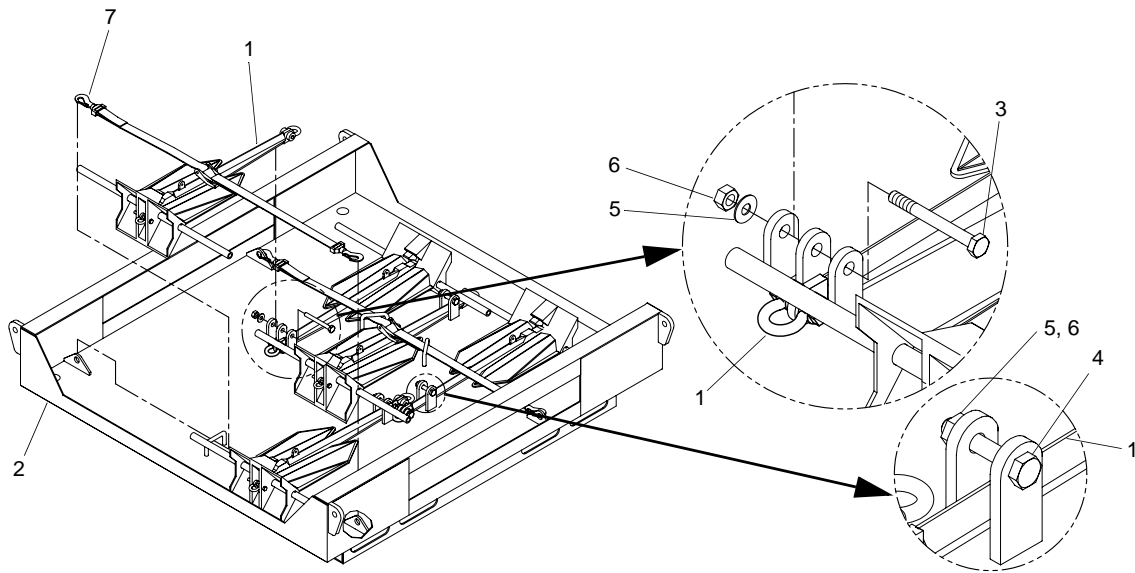

Figure 19. Onshore Anchor Stowage
- a. Using assistant, place the anchors (figure 19, item 1) in pallet (figure 19, item 2).
- b. Install bolts (figure 19, items 3, 4), washers (figure 19, item 5) and nuts (figure 19, item 6) to secure onshore anchor (figure 19, item 1) to pallet (figure 19, item 2).
- c. Install and tighten tie down straps (figure 19, item 7).